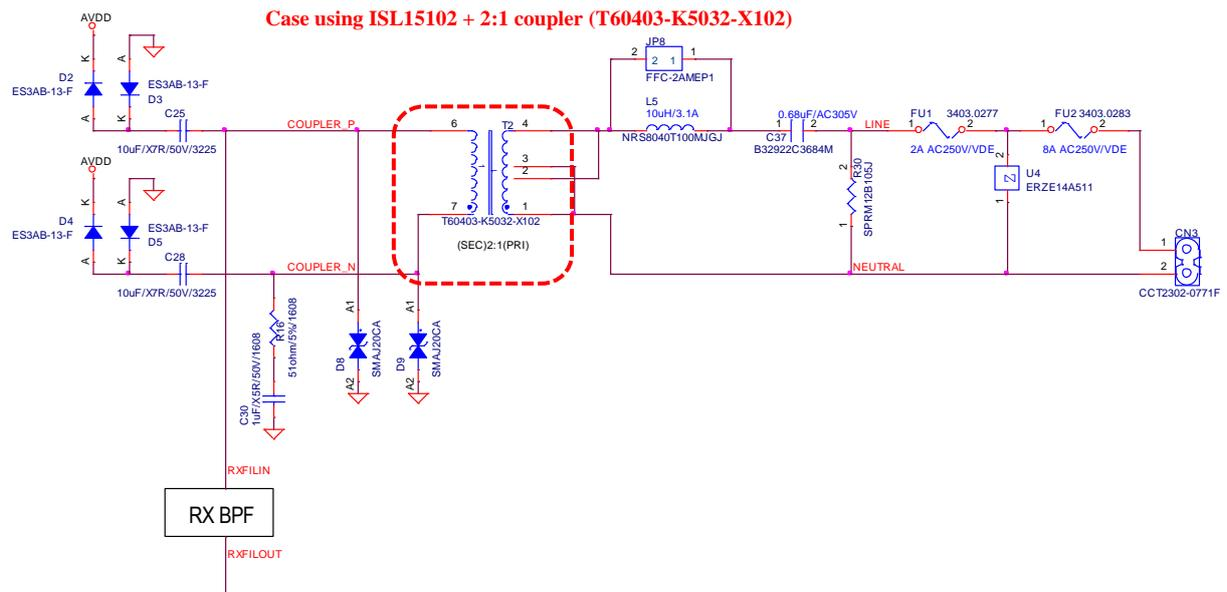

Figure 3-8 The recommended 2:1 PLC coupler (T60403-5032-X102) connection example
- The recommended PLC Coupler is T60403-5032-X102. Figure 3-8 shows a connection example when using the recommended PLC coupler (T60403-5032-X102) at 2:1.